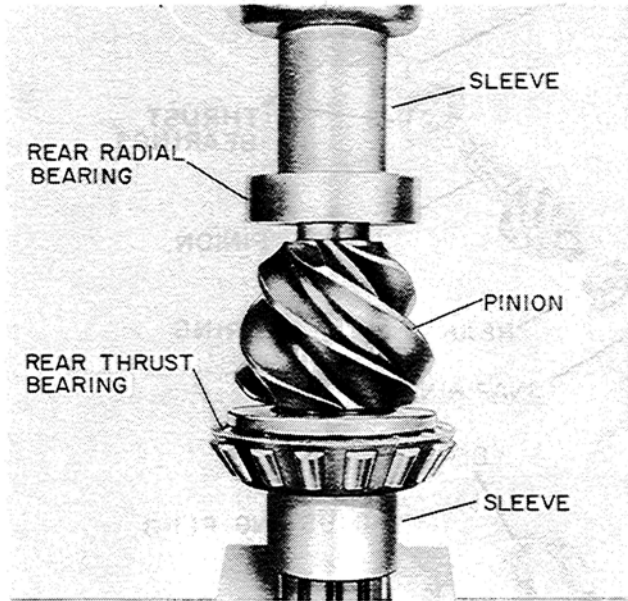

Figure T-51
1. Press the rear thrust bearing and radial bearing firmly against the pinion shoulders with a sleeve that will bear only on the bearing inner race, Figure T-51.